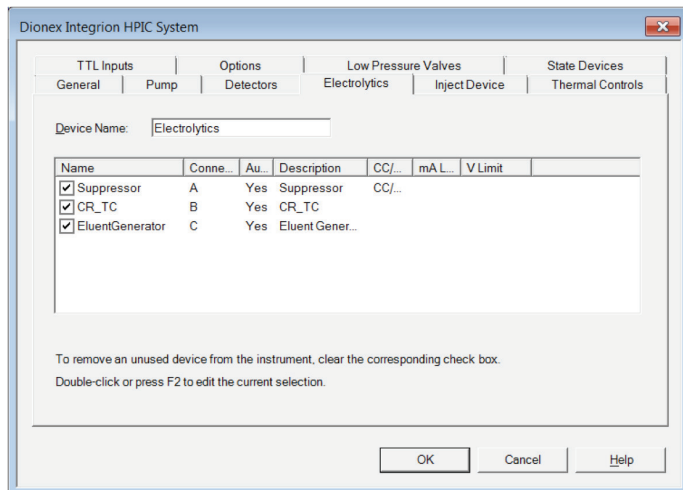
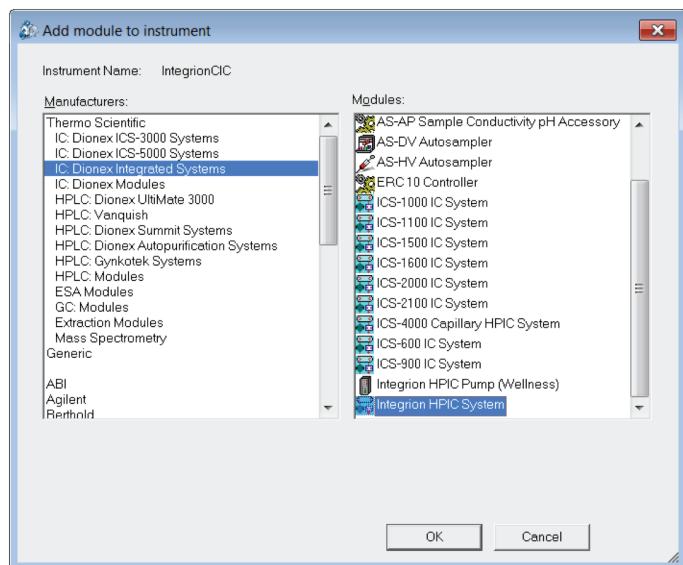

Figure 2. Automatic detection of electrolytic devices.
Figure 1. Creating a configuration.
1. Select *Add a Module, IC: Dionex Integrated Modules, and Integrion HPIC System* (Figure 1). A window with multiple tabs will automatically open up (Figure 2).
2. Select the Model Serial No. on the General tab. The Chromeleon CDS software will automatically detect all electrolytic devices, detectors (Figure 2), Pump Degasser, and Seal Wash pump (not shown).